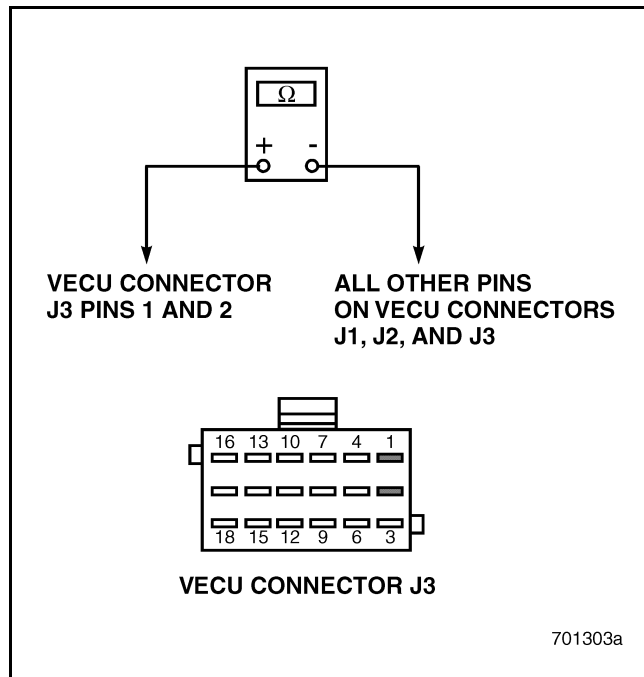

Figure 653
5. Check for continuity between VECU connector J3 pins 1 and 2 versus all other pins on VECU connectors J1, J2 and J3 (see Figure 653).